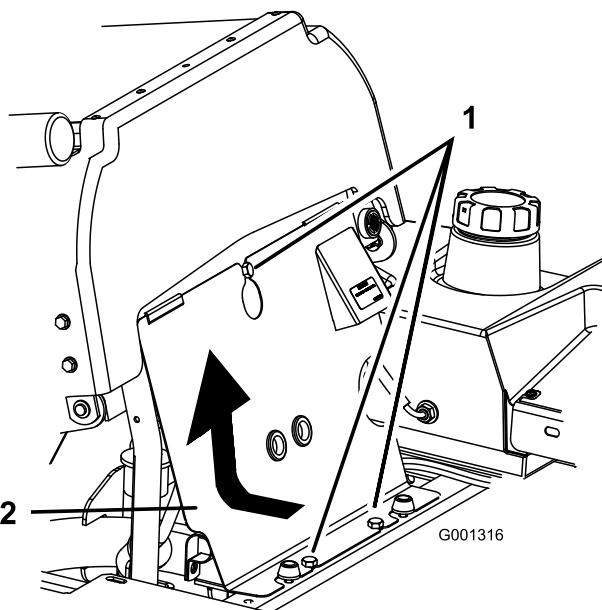

Figure 53
3. Tilt the seat forward, loosen the bolts and remove the front engine panel (Figure 53).